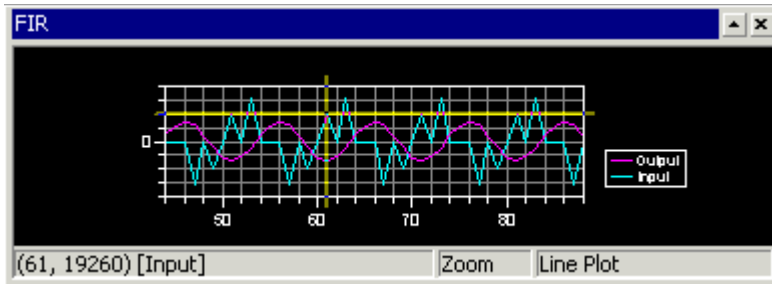

Figure 2-31. Plot Window: Using the Data Cursor Feature
3. Right-click inside the plot window and choose **Data Cursor** from the popup menu. Then move through the individual data points in the current data set by pressing and holding the Left (←) and Right (→) arrow keys on the keyboard. The value of the current data point appears in the lower-left corner of the plot window, as shown in Figure 2-31 on page 2-42.